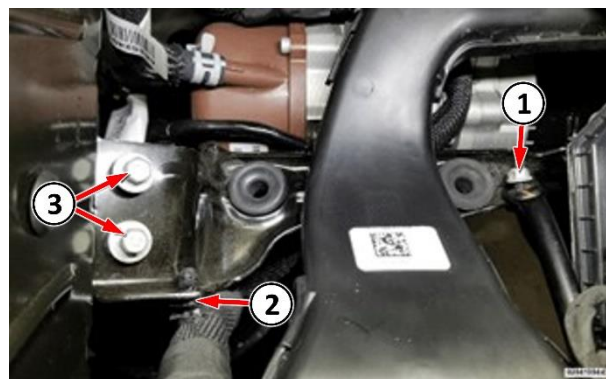

Figure A5 – Electrical Connectors
16. Disengage the air duct from the air cleaner bracket (Figure A5).
17. Disengage any wire harness routing retainers from the bracket as applicable depending on engine configuration (Figure A5).
18. Remove the bracket nut (Figure A5).
19. Remove the bracket bolts (Figure A5).